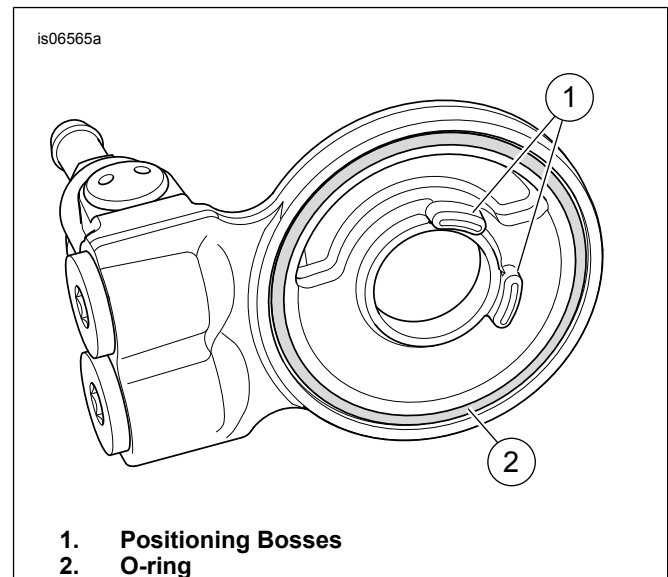

Figure 2. Oil Cooler Adapter
See Figure 2. The oil adapter assembly has two positioning bosses (1) protruding out of the back. The bosses must be installed toward the oil filter mounting location.